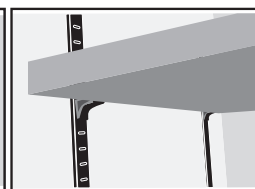

Figure 8.4
5. Install the shelf into position by placing inside the safe (tilting if necessary) and lowering into position on the support clips (Figure 8.4).